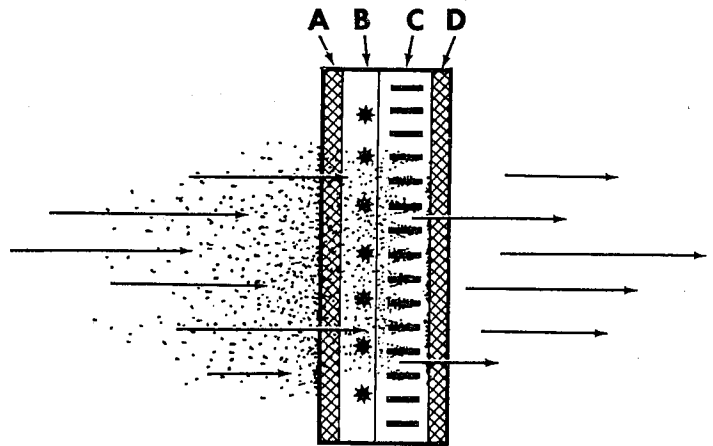

Figure 1
Dirt laden air flowing through the ducts (figure 1) first enters the pre-filters (A) where large particles (hair, lint, etc.) are trapped. Smaller particles (smoke, dust, pollen, etc.) pass through these pre-filters and enter the ionizing section (B). Here each tiny particle receives a positive electrical charge. These charged particles then enter the collecting section (C). This section consists of a series of aluminum plates . . . alternate plates are charged positively.
The cabinet is provided with tracks on the outlet side for insertion of optional charcoal filters where desired. These filters would be at location D in figure 1.